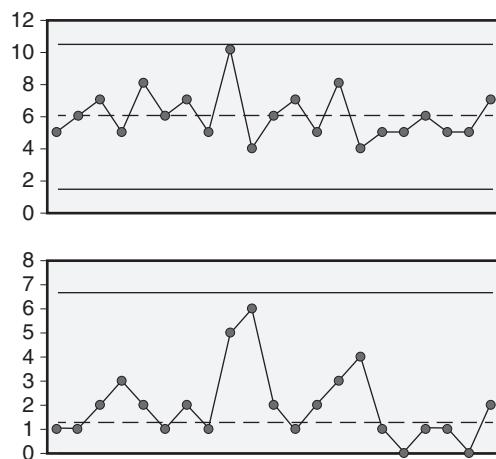

Figure 9.6 Individuals and moving range (I-MR) chart for continuous data.
First, if individual values are being charted in the top chart, then the lower chart will show the absolute value of the change from one point to the next. For example, the time required to complete one driver's license exam at one computer terminal in the Bureau of Motor Vehicles is listed in the top chart in Figure 9.6. The individual values are listed from left to right showing the time required for each person to take the exam. The first time is five minutes, the second is six, and so on. The average is six minutes.
The difference from the first point (5) to the second point (6) is 1, so that is plotted at the far left of the *moving range chart* (bottom chart in Figure 9.6). The best thing to see on this chart is low numbers, as close to zero as possible, because that means there is little variation in the process.